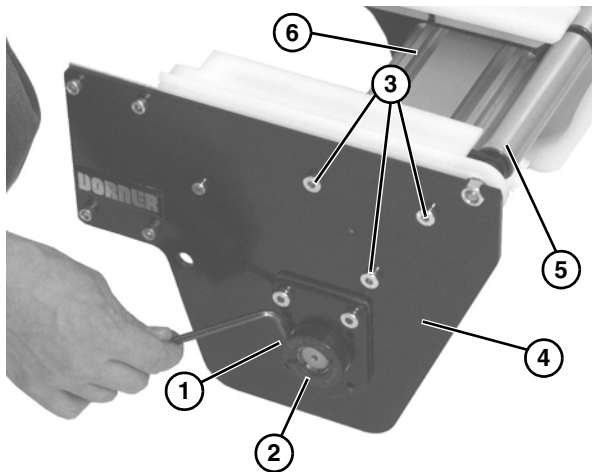

Figure 35
7. Loosen the bearing collar set screw (**Figure 35, item 1**) and remove bearing collar (**Figure 35, item 2**).
8. Remove three socket head screws (**Figure 35, item 3**), and remove plate (**Figure 35, item 4**) from drive spindle (**Figure 35, item 5**) and crossmember (**Figure 35, item 6**).